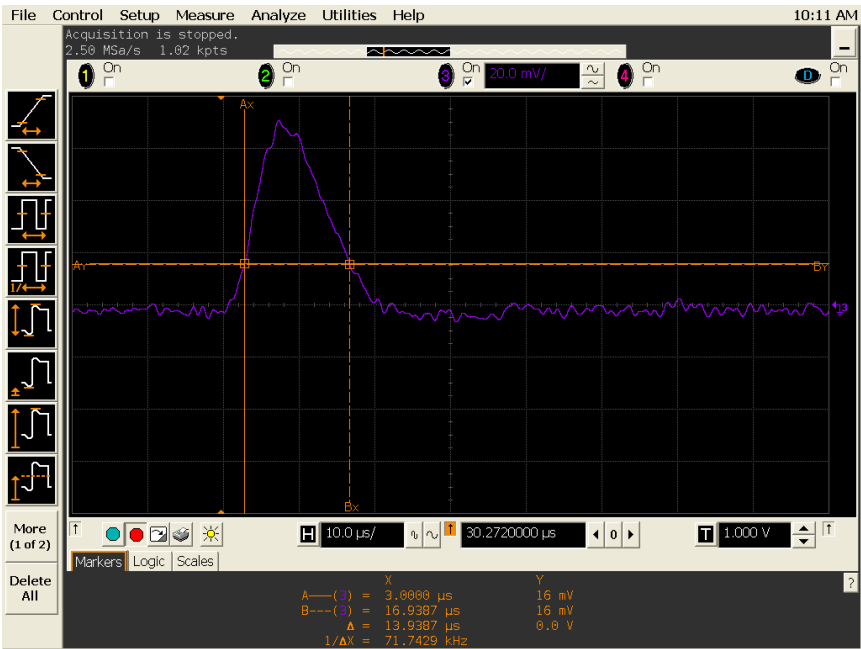

Figure 5-4 Graph of load transient response
- 7** Adjust the oscilloscope to display transients as shown in Figure 5-4. Note that the pulse width ($t_2 - t_1$) of the transients at 15 mV from the base line is no more than 50 μ s for the output.